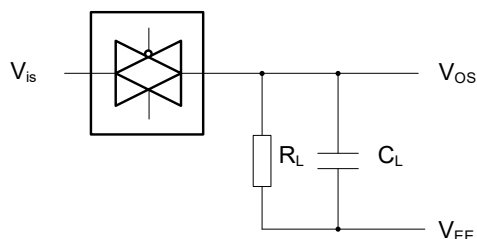

Figure 8-6 Square wave distortion degree of cut-off frequency and conduction frequency test pattern
(3) $R_L=1\text{k}\Omega$; $C_L=5\text{pF}$, channel off, $20\log V_{os}/V_{is}=-50\text{dB}$, see Figure 8-6.
(4) $R_L=1\text{k}\Omega$; $C_L=5\text{pF}$, channel on, $20\log V_{os}/V_{is}=-3\text{dB}$, see Figure 8-6.